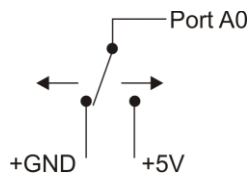

Figure 8. Schematic showing switch detection by digital channel Port A0
When you configure the digital bits for input, you can use the digital I/O terminals to detect the state of any TTL level input. Refer to the schematic shown in Figure 8. If the switch is set to the +5 V input, Port A0 reads *TRUE* (1). If you move the switch to GND, Port A0 reads *FALSE*.